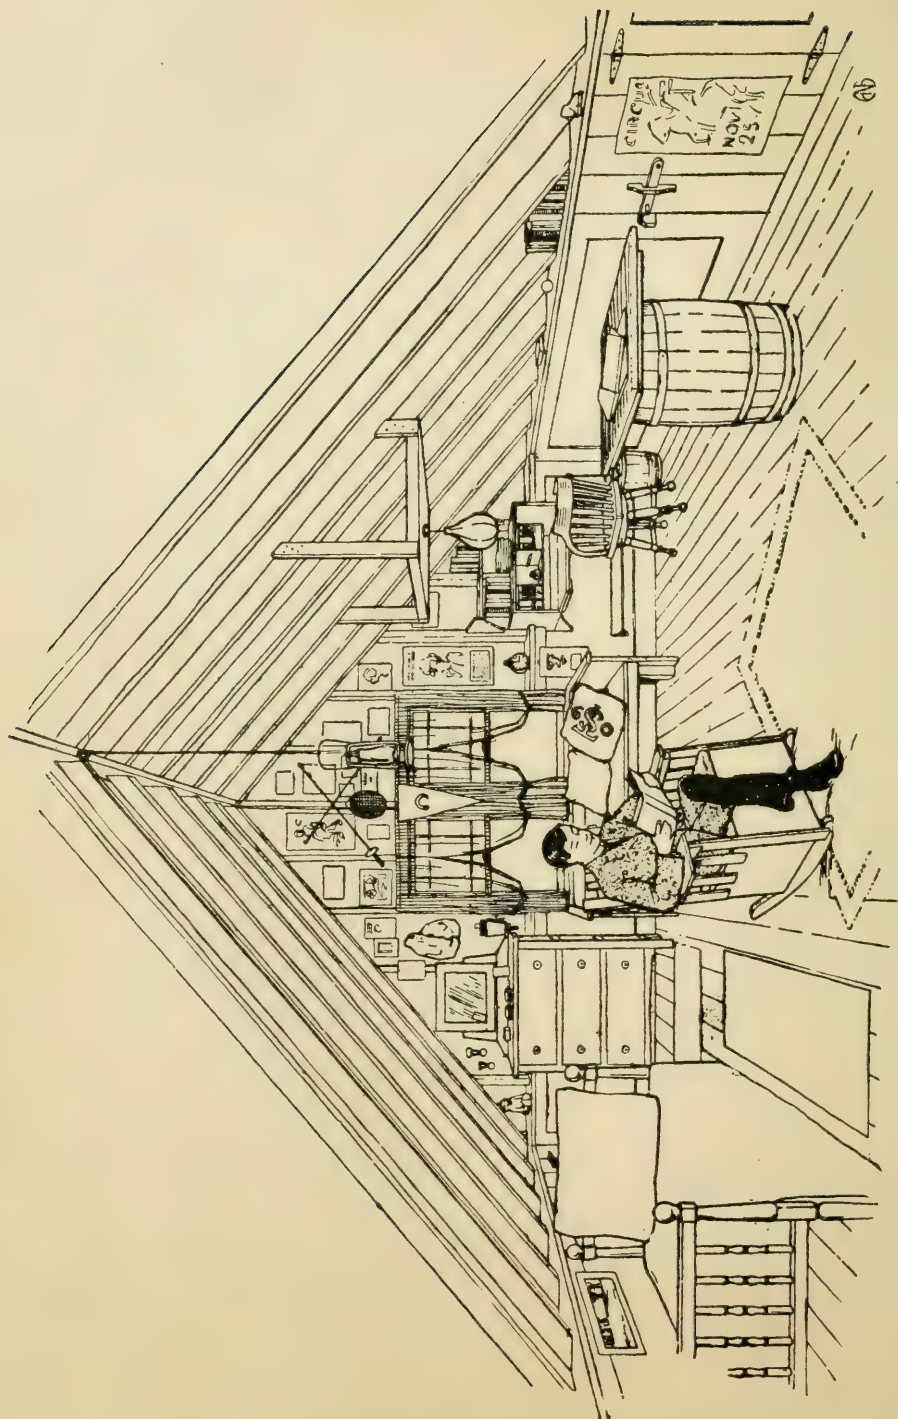
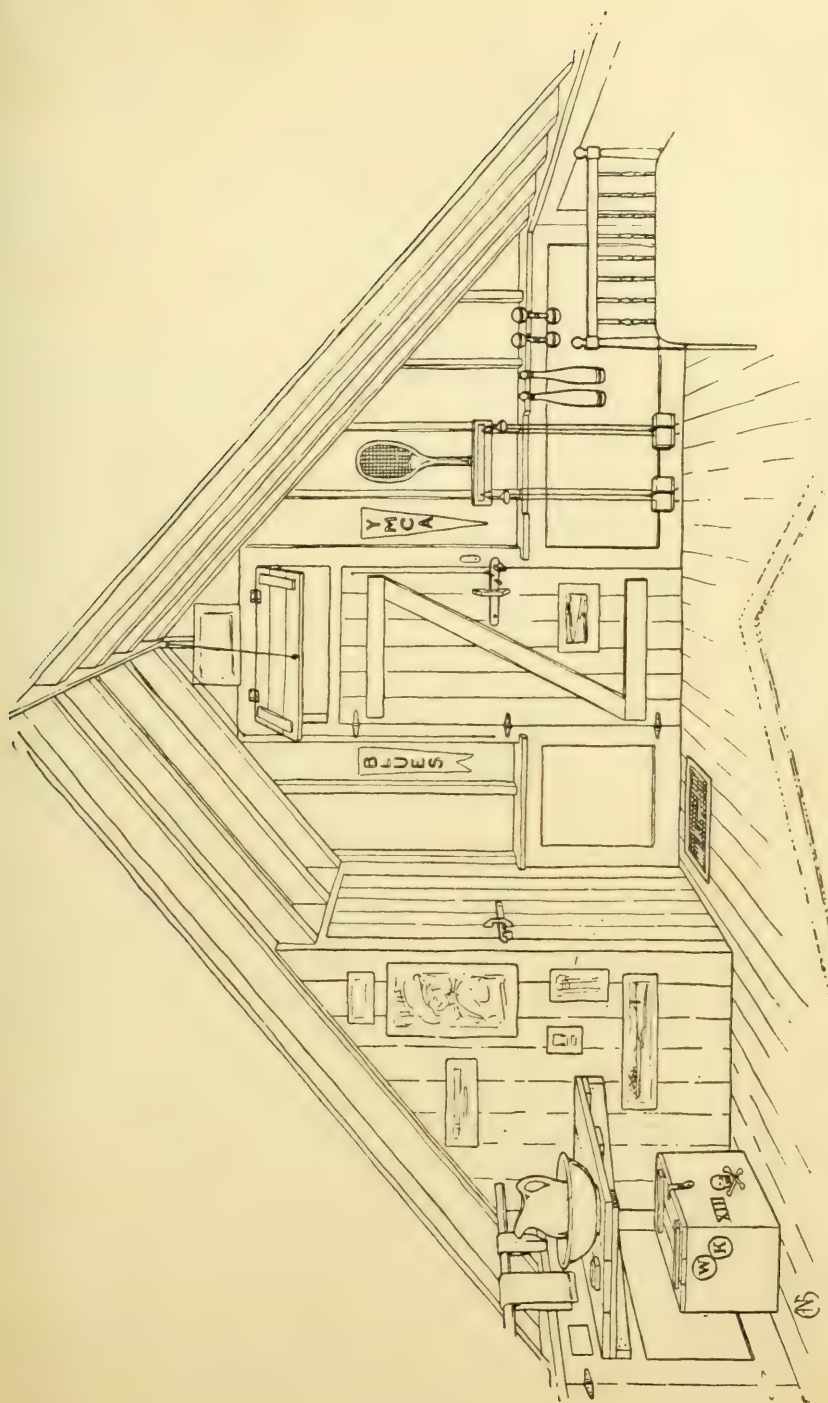
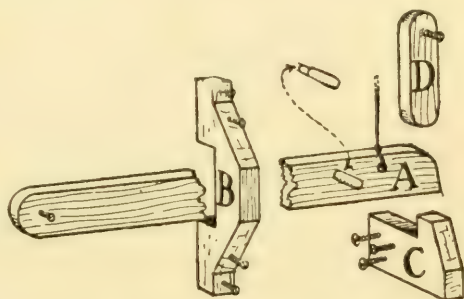

FIG. 170. — A Boy's Room in an Attic.
FIG. 171. — Opposite End of the Attic Room.
FIG. 181. — Details of Door Latch, Guard, Catch, and Button.
THE attic of the average house presents the best possible conditions for fitting up a boy's room, for generally it is a large unfinished space where a boy will have an excellent opportunity to partition off as large a room as he may require, and furnish it to suit his own taste with home-made furniture and all of his knickknack keepsakes. Usually an attic is the storage place for old trunks, antiquated furniture, and household truck, and this could very easily be packed together in such a way that a large enough space for a room would remain at one end. Figures 170 and 171 show how a room can be made in the attic of a house having a gable roof, but as one attic differs from another just as the house differs from another in plan and design, the suggestions will have to be modified to suit the conditions of your attic. Take a run up to the top of your house, boys, and look things over; then you can tell better just what you can do.
are unfinished and of frame construction, as shown in Fig. 170, it will look best to space the partition studs directly opposite the wall studs and nail the boarding on the outside face (Fig. 171); but they may be spaced 3 feet apart, to save lumber, and yet be close enough to support the boards.
**A Large Clothes Closet** should be built in one corner of the room as shown in Figs. 171 and 178, and the inside should be fitted up with shelves, hooks, and coat and trousers hangers. A piece of broom-handle or curtain-pole may be fastened across the rafters upon which to hook coat hangers, hooks may be made out of spools (Fig. 179), and the
shown in Figs. 171 and 178. To make a nicely finished entrance to the room, conceal the studding around the doorway with *jamb* and *head* boards, and nail a board *trim* around the opening as shown in Figs. 171 and 174. In the plan of the *door jamb* (Fig. 175), the stud on one side of the opening is shown at *A*, the finished *jamb* board at *B*, and the inside and outside *casings* or *trim* at *C*; the door is shown hinged in place at *D*, and the *stop* strip shown at *E* is nailed around the inside of the opening for the door to strike against. Hinge the entrance door and the locker doors on to the casings with strap-hinges (Fig. 171).
The **Entrance-door Transom** is made of boards battened together (Fig. 171) and is hinged at the top to the trim. It is operated by means of a cord which is run from a screw-eye in the bottom of the transom up over a small pulley in the ceiling, and from that down to a nail in the wall.
Figure 181 shows the details for
An **Old-fashioned Cabin Latch** which will do very well for the doors. By looking at Fig. 171, you will see that the *latch A* (Fig. 181) is screwed at one end to the door, the *guard B* is screwed in place over *A*, and the *catch C* is set into the jamb board. The entrance door should have a *latch-string* with which to open it from the outside (Figs. 174 and 181) and also a wooden *button D* (Fig. 181) with which to lock it on the inside. Make a handle for the outside of the door similar to guard *B* (Figs. 174 and 181).
If there isn't any running water in the attic, make **A Wash-stand** in a corner, as shown in Fig. 171, to hold a wash-bowl and pitcher. Fasten
**A Home-made Hanging Lamp** out of it as shown in Fig. 170. Besides the lantern, you will need a *harness snap*,
handle is snapped into it, will pull down to within easy reach of the floor. The weight of the brick must be just enough to counterbalance the lantern; if too heavy, break off a piece. Figure 170 shows the lamp pushed up out of the way.
**A Pirate Chest** such as is shown in Fig. 171 and
**A Window Seat** as shown in Fig. 170. Ask your mother to make a few sofa pillows for the seat.